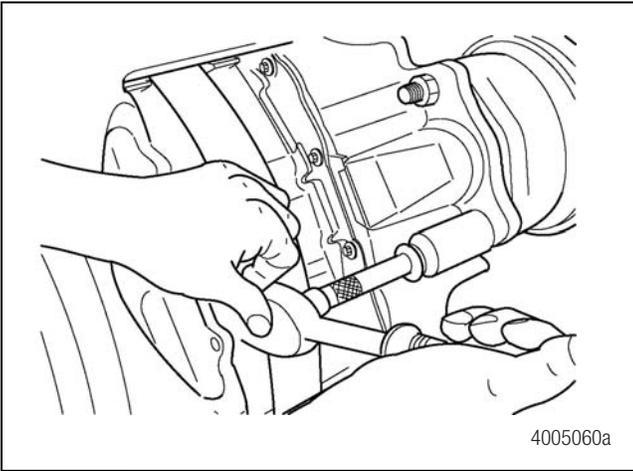

Figure 4
6. Use the correct wrench to remove the air chamber nuts and washers. Figure 4.